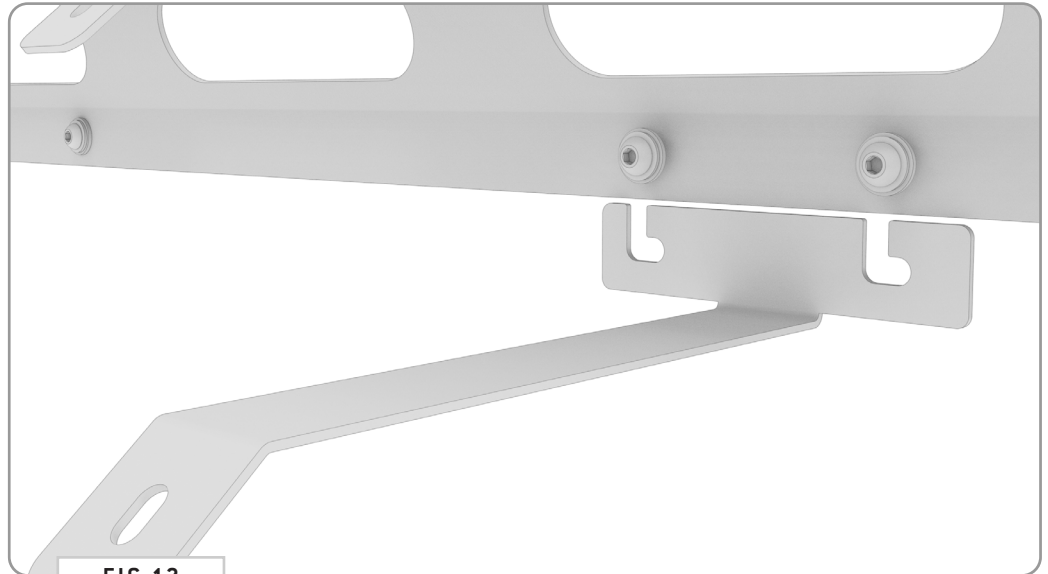

FIG 12
4.3 Center Fairing Bracket: Slide in the **Center Fairing Bracket** into place along the two center-most **1/4-20" Button Head Screws** of the **Crossbar Fairing Bracket** as shown in FIG 12.